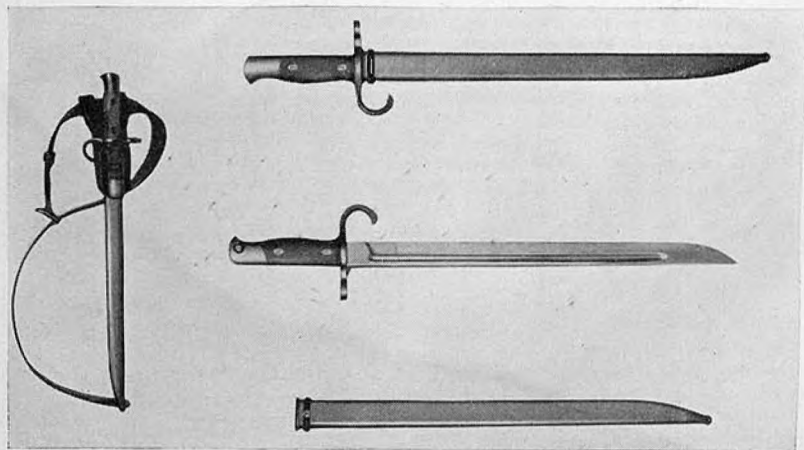
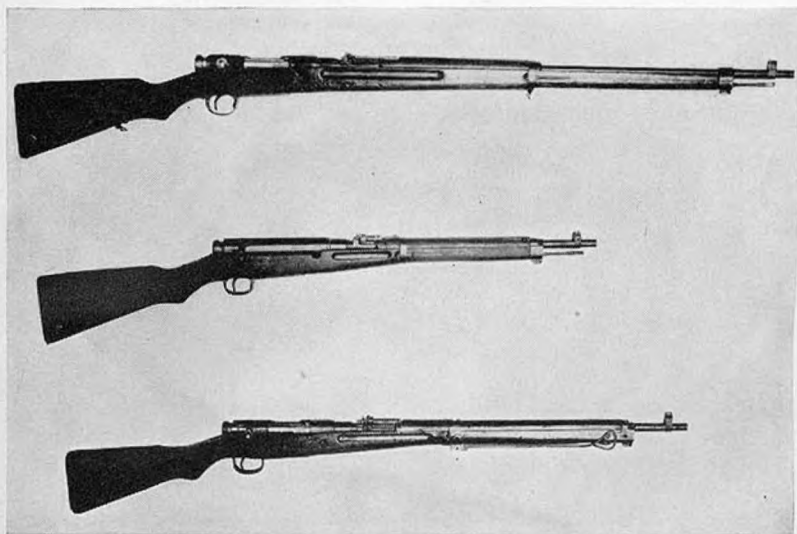

Figure 20.—Model 30 (1897) bayonet and accessories.
Figure 27.—Model 38 (1905) 6.5-mm rifle (top), Model 38 (1905) 6.5-mm carbine (center), and Model 99 (1939) 7.7-mm rifle (bottom).
similar (see fig. 27, p. 41). This carbine, like the rifle, is fitted to take the Model 30 (1897) bayonet (see **g** (1), below, and fig. 20, p. 33).
well to discard the bolt cover. A straight, one-edged bayonet, the Model 30 (1897) (fig. 20), is provided; it locks firmly to the muzzle and upper band in the same manner as the bayonet for the U. S. M1903 (Springfield) rifle. (See also figs. 14, 15, and 19, pp. 25, 26, and 31, respectively.)
In some areas the Model 99 (1939) 7.7-mm rifle (fig. 26) is replacing the Model 38 (1905) 6.5-mm rifle (*Arisaka Sampachi*) (par. 8, p. 25) as the basic Japanese infantry weapon. It is 5 inches shorter and of larger caliber than the Model 38, but otherwise it is identical in construction (see fig. 27). Like the older model, it is fitted to take the Japanese service bayonet (fig. 20, p. 33). (For a long model 7.7-mm rifle, see par. 47, p. 240.)